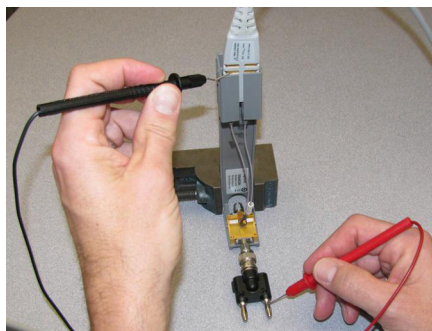

Figure 71 Measuring the single-ended input resistance of a ZIF or solder-in probe head
- 7 To measure the single-ended input resistance, measure the resistance between the signal plug of the banana adapter and the probe amplifier ground, which can be accessed as shown in Figure 71 (through the vent window of the probe amplifier).